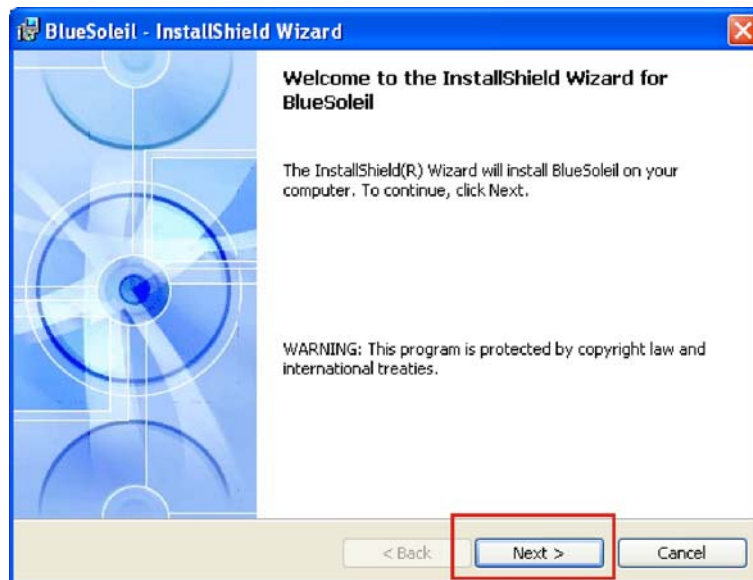

Figure 6-41: Bluetooth InstallShield Wizard
Step 7: The **Bluetooth InstallShield Wizard** window appears (Figure 6-41).
Step 8: Click **NEXT** to continue (Figure 6-41).